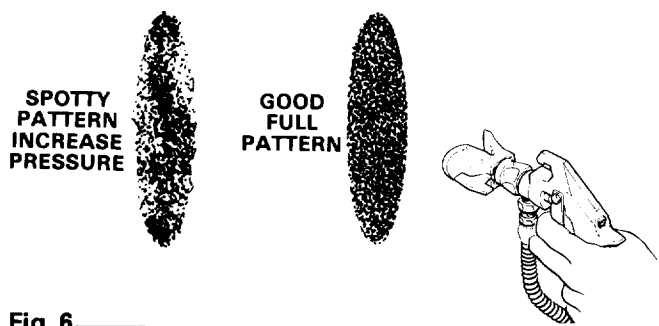

Fig 6
3. **Adjusting the Spray Pattern** (Refer to Fig 6.)